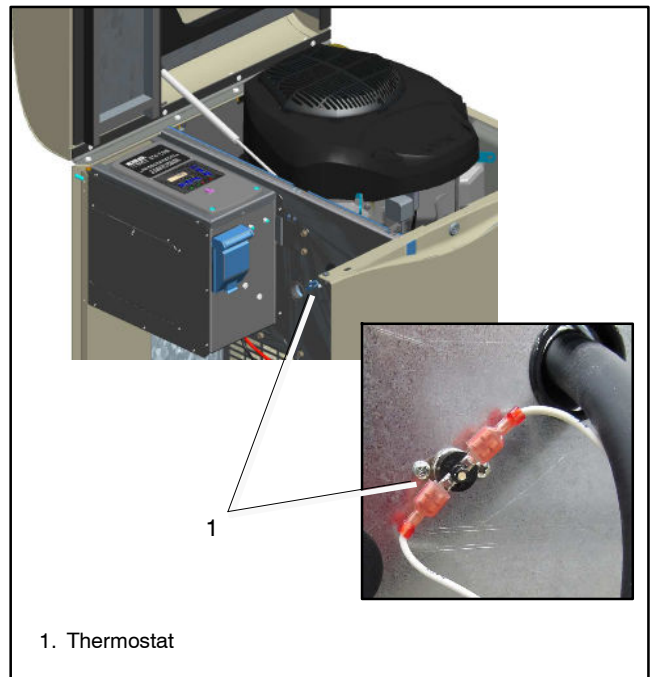

Figure 2-5 Thermostat Location
3. Press the button on the thermostat to reset it. See Figure 2-5 for the thermostat location.